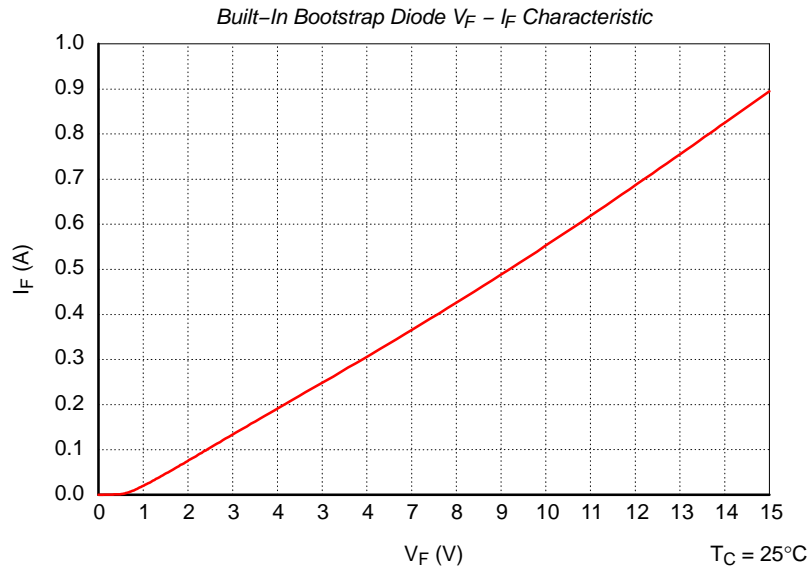

Figure 3. Built-In Bootstrap Diode Characteristics (Typical)
- Source terminal of each low-side MOSFET is not connected to supply ground or bias voltage ground inside Motion SPM 5 product. External connections should be made as indicated in Figure 3.